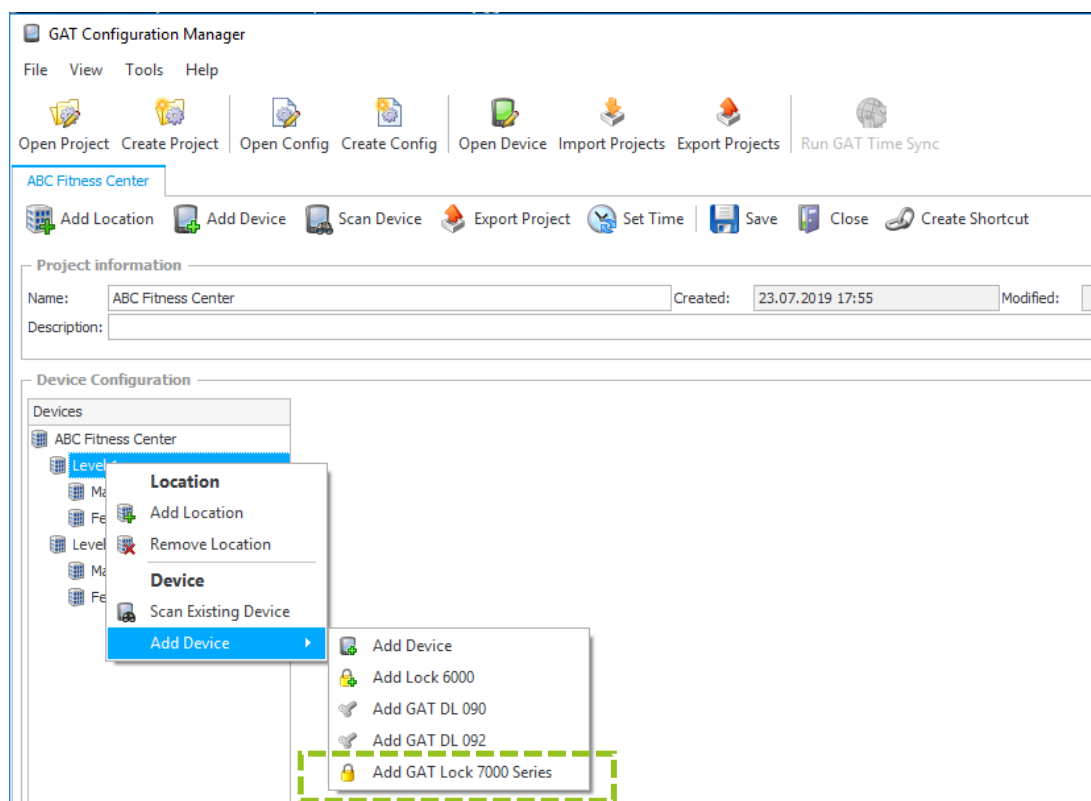

Figure 5.3 – GAT Config Manager – Adding a GL7p
- To add a GL7p to a location, right-click on the location and select “Add GAT Lock 7000 Series” from the “Add Device” menu (Figure 5.3).